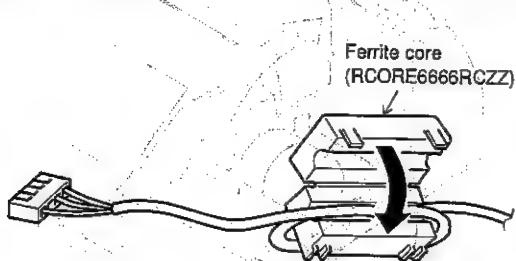

Fig. 3
- 8) Attach the ferrite core (RCORF6666RCZZ) to the drawer cable. (Use the accessory ferrite cores of the ER-A550 for the second drawer.) For the third and more drawers, optional Ferrite cores are required. (See Fig. 3)